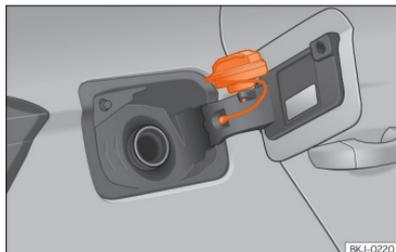

Fig. 155 Fuel tank flap with tank cap attached.
- Place it in the space on the hinge of the open flap >>> Fig. 155.